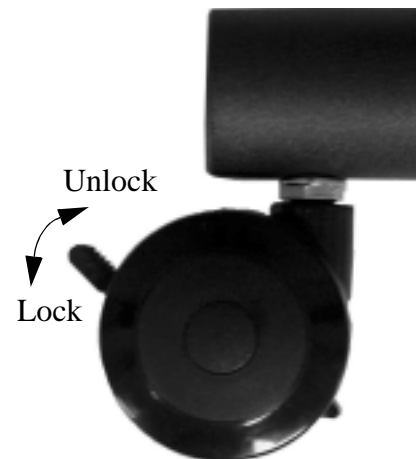

Figure 3.
2. Release the locks on the two locking casters (see Figure 3).